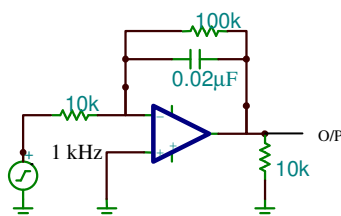

Fig. 4g Integrator circuit
8. Make the circuit as in Fig 4g. Choose the input as 10mV, 1KHz sinusoidal ac signal. Calculate the phase difference between the input and output signal. Repeat the experiment for square and triangular wave ac inputs.